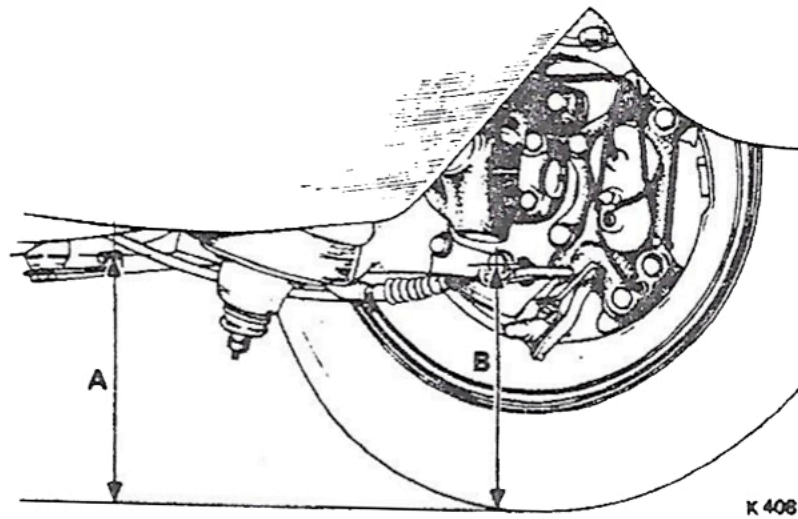

Fig. 3 Car Height Checking Points - Rear
38. Check and adjust the levelled height as necessary; the height from the ground to the centre of the rearmost bottom bolt which attaches the crossmember mounting forging to the body sill should be 0.875 in. \pm 0.125 in. (22,22 mm. \pm 3,175 mm.) less than the distance from the ground to the centre of the rearmost bottom bolt attaching the rear yoke to the trailing arm (see Fig. 3).